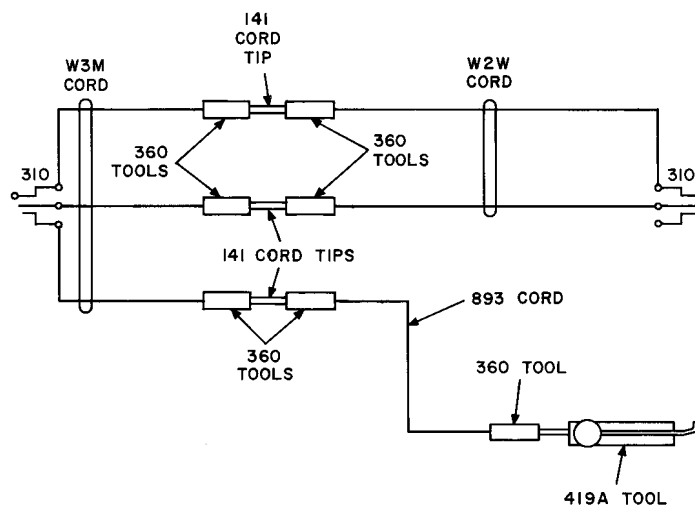

Fig. 1
2.11 Test cord assembly, shown in Fig. 1, consisting of the following: one W3M cord, 6 feet long, equipped with a 310 plug and one each of 360A, 360B, and 360C tools (3W4A cord); a W2W cord, 6 feet long, equipped with a 310 plug, and 360B and 360C tools (2W17A cord); 893 cord, 6 feet long, with a 360A tool at each end (1W13B cord); 419A tool; and three 141 cord tips (for use where test jack is not located on line finder).
| 10a | If test jack is not located on line finder — Insert plug of 6-foot W3M cord, connected as shown in Fig. 1, into test set LF jack. | |